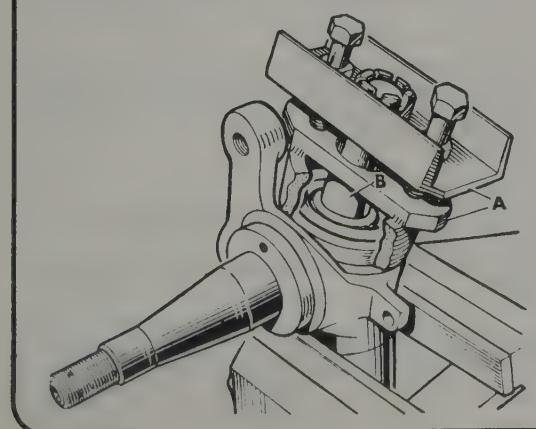

Fig. 11.5. Using an extractor (A) to disconnect a front suspension bottom balljoint (B)
- 10 A special ball joint extractor, part number 600962 will now be required to remove the ball joint from the swivel pillar. An illustration of this is shown in Fig. 11.5, and if the tool is not available, one can be made from a piece of tube, 'U' shaped angle iron and a piece of plain steel bar, suitably drilled and welded to the tube as shown.